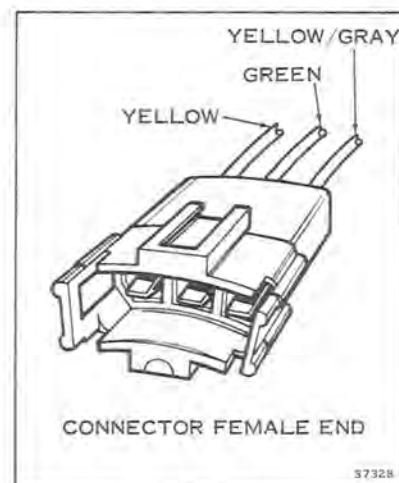

Figure 7-22
- A. Disconnect the stator three way twin lock connector (curved connector) behind belt guard. See Figure 7-22.
- C. Leave ohmmeter set as in (B) above with one lead attached to yellow/gray stripe lead and connect other meter lead to green wire. This reading should be .38 ohms  $\pm$  10%.